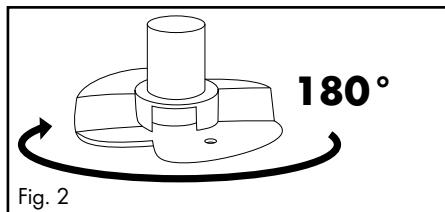
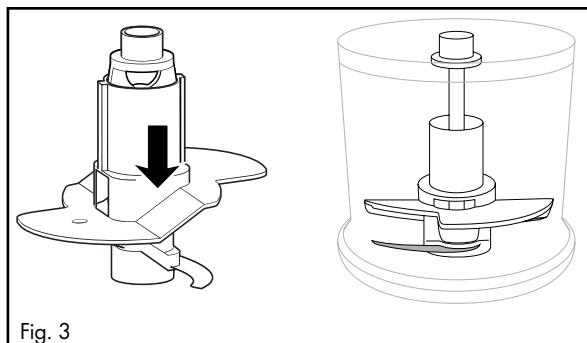

Fig. 2
Fig. 3
- For 200 ml of cream, turn the whisk attachment ⑩ horizontally by 180° (fig. 2), so that it is in contact with only one blade ⑦ and clicks into place (fig. 3). It then churns higher through the cream.